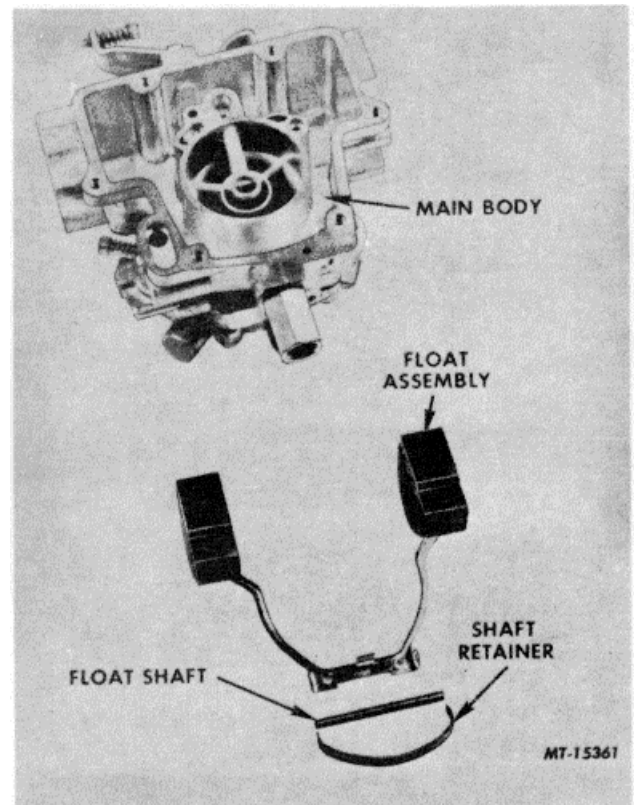

FIG. 15. Remove or Install the Float Assembly
2. Remove the fuel inlet valve and fitting assembly: remove gasket. Remove spring float shaft retainer, float shaft and float (Figure 15).